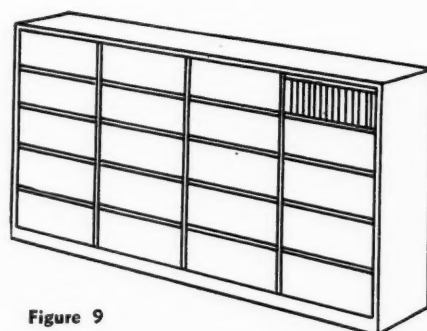

Figure 9
3. A series of steel shelving sections with the cuts placed in special numbered chipboard boxes and stored on the edge. Shelves are usually 18 inches deep and 36 or 42 inches long. See Figure 9.